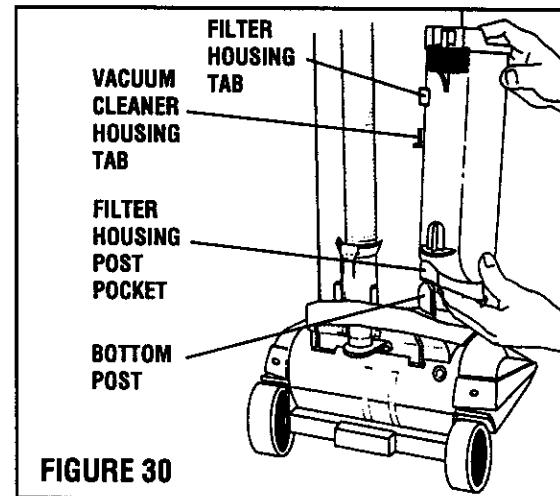

FIGURE 30
3. To re-assemble, locate the Filter Housing Post Pocket over the Bottom Post of the vacuum cleaner while also positioning the Filter Housing Tab above the Vacuum Cleaner Housing Tab. (Figure 30)